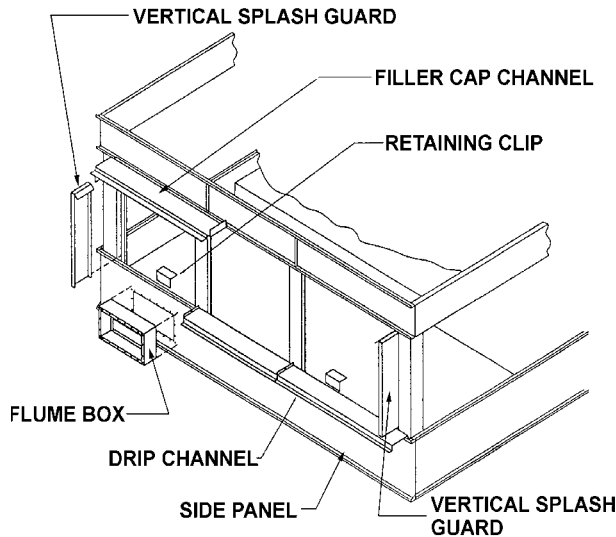

Figure 5 - Attachment of Drip Channel and Splash Guards.
11. Place the vertical splash guard in the bend of the vertical supports. Attach the vertical splash guard using 5/16" self-tapping screws. On stainless steel units, attach the vertical splash guard using 5/16" stainless steel nuts and bolts. See Figure 5.